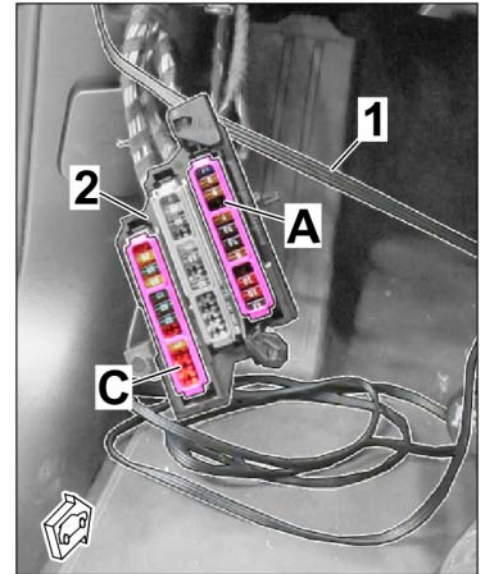

Figure 14
- Roof console → under headliner along windscreen frame → left A-pillar (top) → along A-pillar → fuse carrier on dashboard (left ⇒ *Figure 14*) → BK 0.5² line → ground pin 21 (LHD)